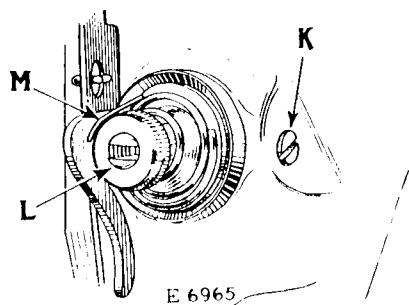

FIG. 20. ADJUSTMENT OF THREAD TAKE-UP SPRING
The thread take-up spring (M, Fig. 20) should be set so that when the eye of the needle reaches the goods on the downward
stroke of the needle bar, the spring will be through acting and will rest against the stop on the thread take-up spring regulator. If the thread take-up spring is not correctly set, loosen the set screw (K, Fig. 20) in the arm of the machine, and turn the tension stud (L, Fig. 20) to the right for more movement of the spring or to the left for less movement. When the spring is correctly set, securely tighten the set screw (K).